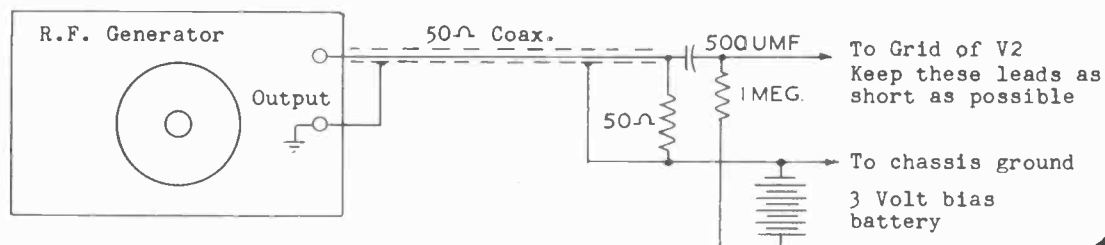

Figure 17 I.F. Input Adapter
**SOUND TRAP ALIGNMENT:** First, remove V1 (6BH6 R.F. amplifier) and V-3 (6C4 local oscillator tubes) from the R.F. tuner, and connect an 8000 ohm, 5 watt resistor between the  $\sqrt{175}$  volt buss (point G Fig. 13, page 117) and chassis ground. This resistor prevents the voltage on the  $\sqrt{175}$  volt buss from rising when V-1 and V-3 are removed. Connect the R.F. signal generator to the grid of V-2 (point D Fig. 13, page 117) by means of the I.F. input adapter as shown in Fig. 17.
**PICTURE I.F. TOUCH UP:** **FIRST:** Connect the R.F. sweep generator output to the grid of V-2 point D Fig. 13 by means of the I.F. input adapter shown in Fig. 17.